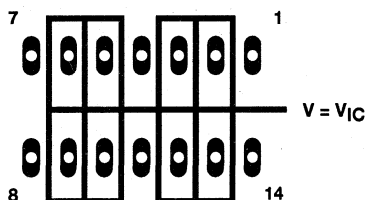
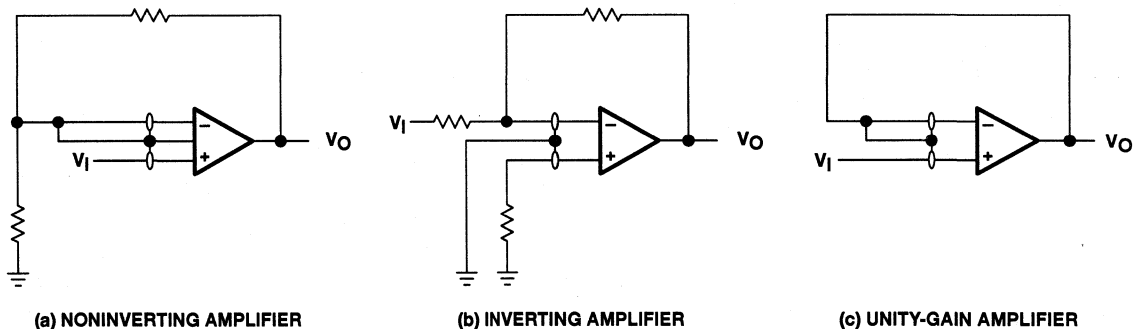

Figure 33. Isolation Metal Around Device Inputs
Figure 37. Guard-Ring Schemes
- Isolate the device from other potential leakage sources. Use a grounded shield around and between the device inputs (see Figure 33). Leakages that would otherwise flow to the inputs are shunted away.
Because of the extremely high input impedance and resulting low bias-current requirements, the TLV2324 is well suited for low-level signal processing; however, leakage currents on printed-circuit boards and sockets can easily exceed bias-current requirements and cause a degradation in device performance. It is good practice to include guard rings around inputs (similar to those of Figure 33 in the Parameter Measurement Information section). These guards should be driven from a low-impedance source at the same voltage level as the common-mode input (see Figure 37).